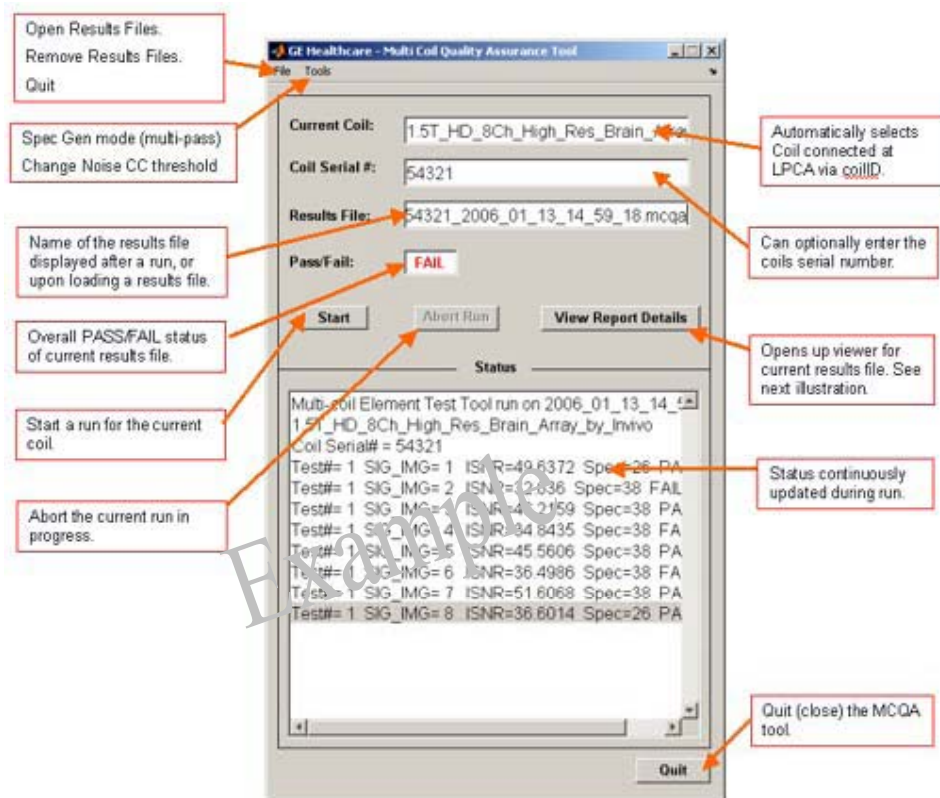

Figure 13: MCQA Starting window
2. From the Common Service Desktop (CSD) select [Image Quality], *Multi-Coil QA Tool* and Click here to start this tool. The Coil Log Viewer will open as shown in *Figure 13*.